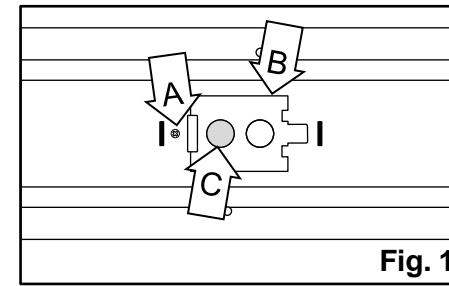

Fig. 1
1. Remove the **screw (A)** near the **wire cover (B)** located on the back of the fixture. [Fig. 1]
2. Punch out one of the **knockouts (C)** in the **wire cover (B)**. [Fig. 1]
5. Place the **wire cover (B)** back onto the fixture and secure it with the **screw (A)** that was previously removed. [Fig. 1]